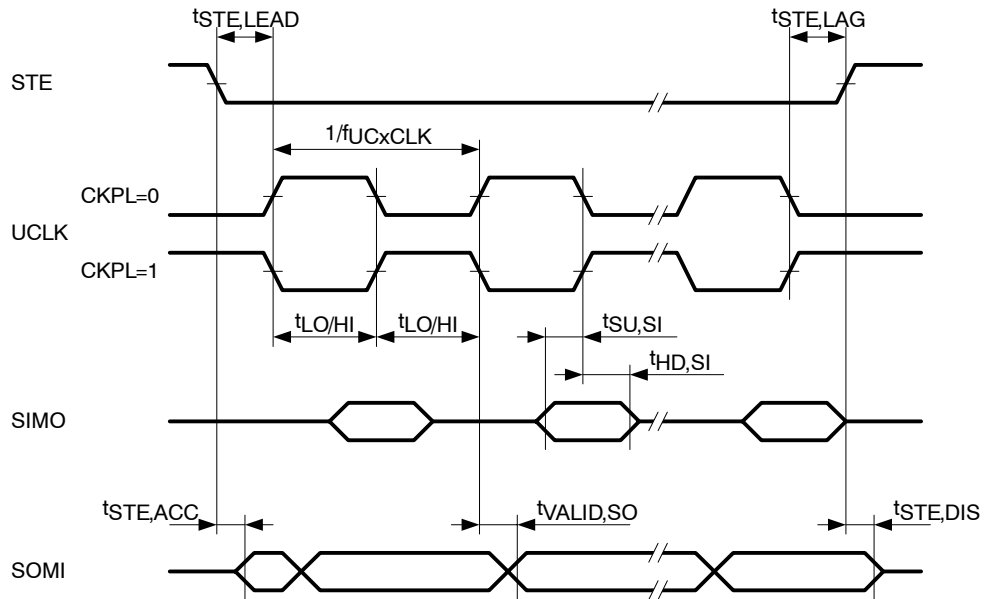
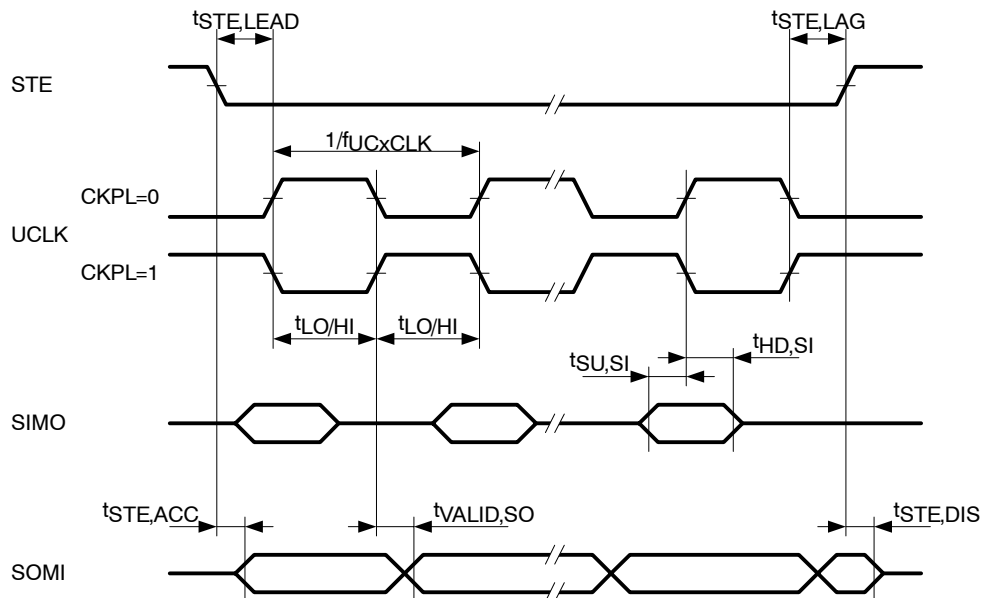

Figure 22. SPI Slave Mode, CKPH = 0
Figure 23. SPI Slave Mode, CKPH = 1
**USCI (SPI slave mode) (see Figure 22 and Figure 23)**